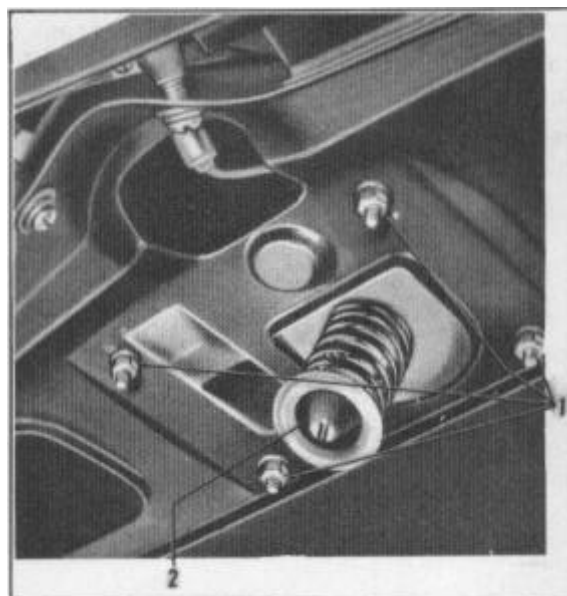

FIGURE 4
1. With a screwdriver remove the spring retainer bolt (2) Figure 4 of lock assembly from attaching nut and remove retainer and spring.
2. Remove the four attaching nuts and washers (2) from lock support plate.